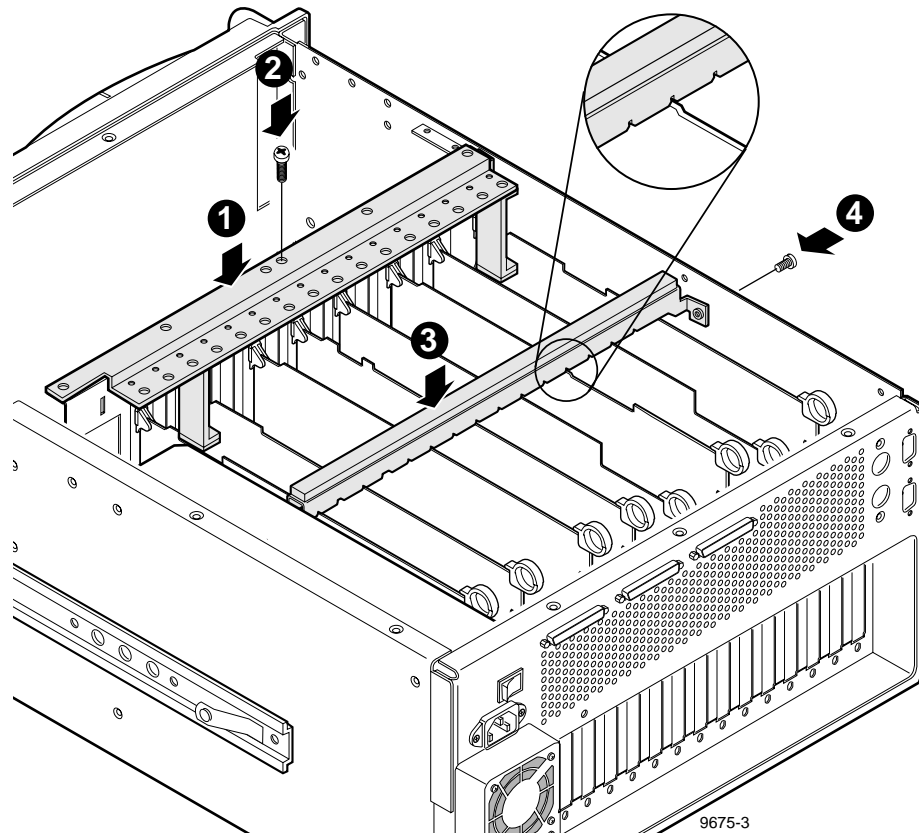

Figure 6-19. Installation of Board Retainer Brackets
To reinstall board retainer brackets, refer to Figure 6-19 and:
3. Use the Torx tool with the T10 tip to install the bracket with the screw previously removed (Figure 6-19).
5. Align the full-size boards to the correct bracket slots (see insert in Figure 6-19) and carefully seat the bracket onto the boards.